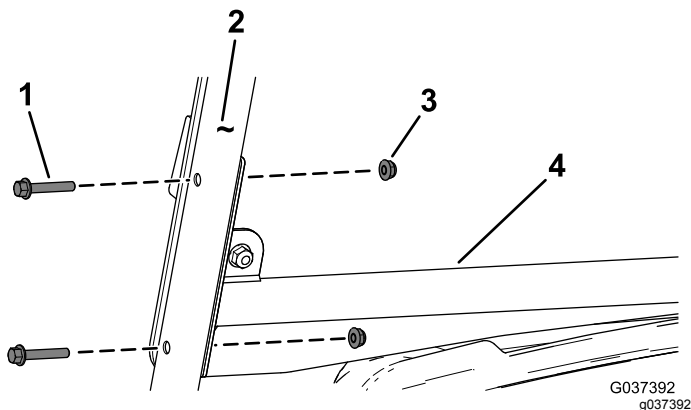

Figure 2
1. Secure the windshield support to the canopy tubes using 4 flange-head screws (1/4 x 1-1/2 inches) and 4 flange nuts (1/4 inch) as shown in Figure 2.